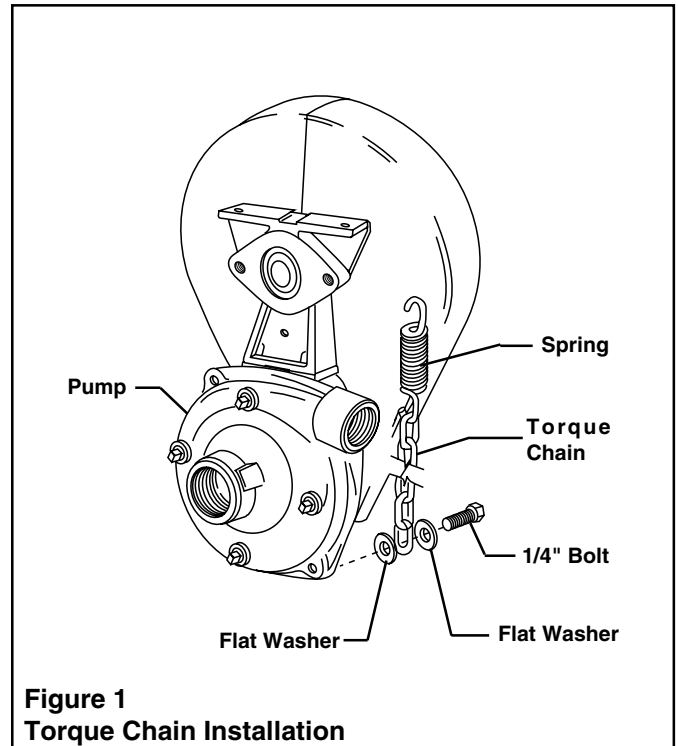

Figure 1
1. Remove one Pump Casing Outboard Bolt (farthest away from the PTO shaft). Using a 1/4" longer Bolt and two Flat Washers, attach a length of Chain or other flexible fastener to the Bolt between the Washers (See Figure 1) and insert them into the Pump Casing in place of the Bolt removed. Secure the other end of the Torque Chain to something solid on the tractor, preferably above the Pump rather than below. If it cannot be attached to anything above the Pump, it may be fastened to the draw bar or frame directly below the Pump.